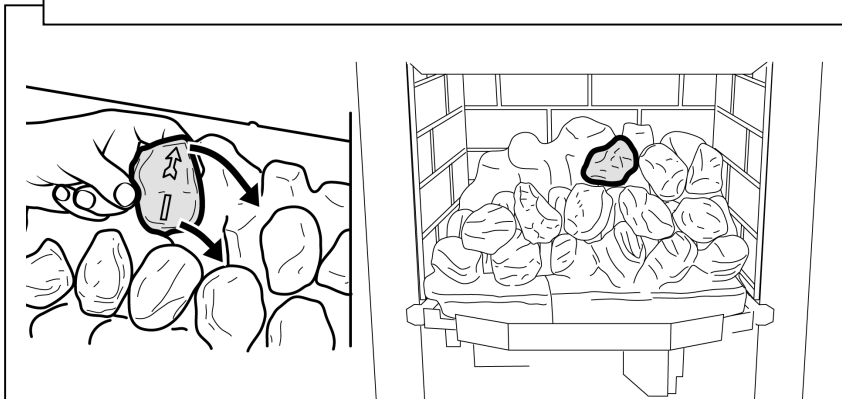

Figure 41. Third row "Coal I"
18. Hold coal 'I' upright with the arrow pointing to the top. Locate coal 'I' as shown in figure 41.